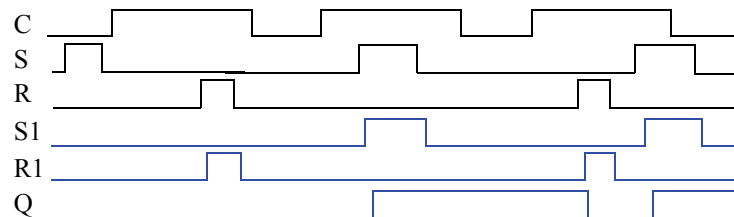

Figure 3.93
- 3.8 Trace the behavior of a level-sensitive SR latch (see Figure 3.16) for the input pattern in Figure 3.93. Assume S1, R1, and Q are initially 0. Complete the timing diagram, assuming logic gates have a tiny but non-zero delay.